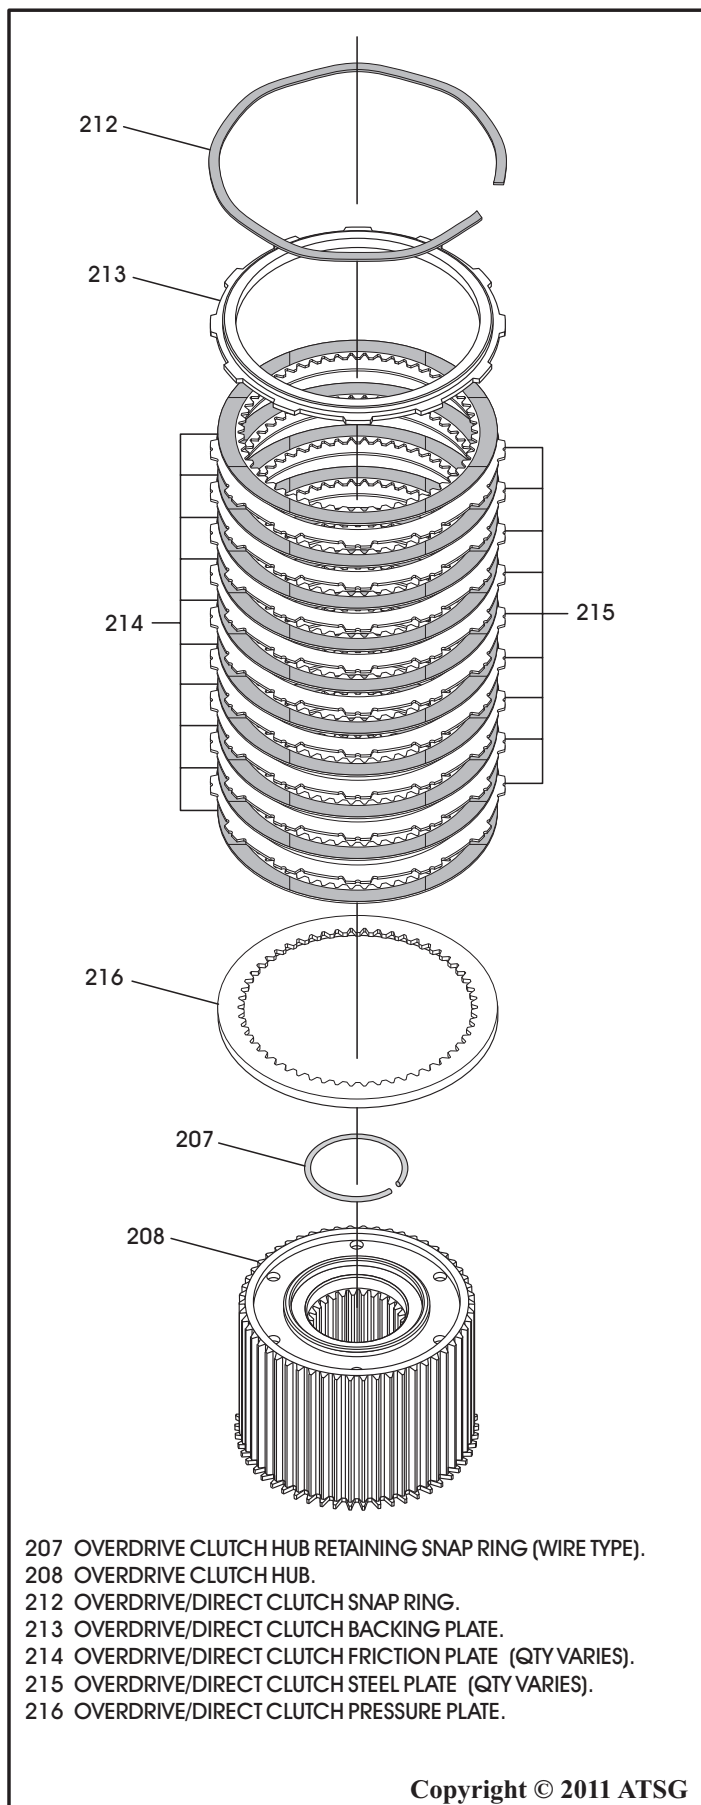

Figure 159
26. Separate the overdrive direct clutch pack from overdrive clutch hub, as shown in Figure 159.